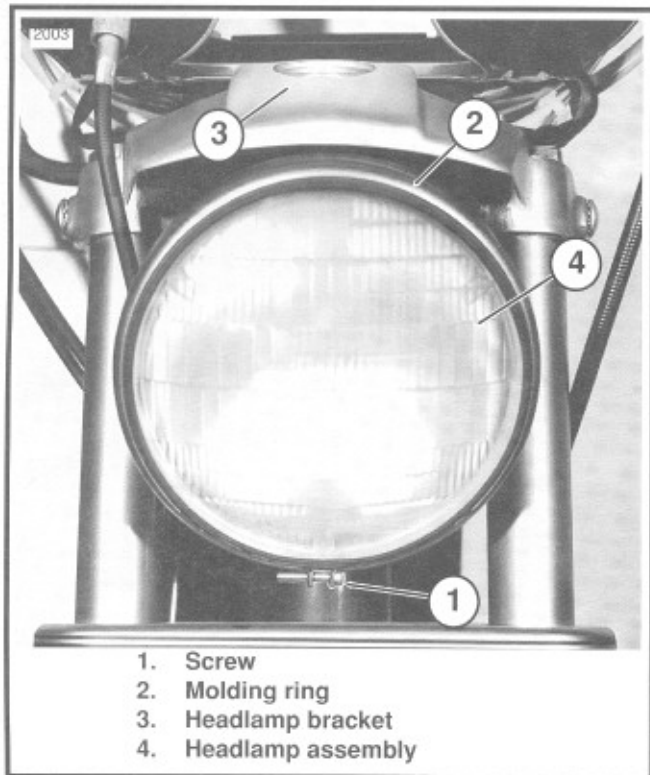

Figure 7-59. Headlamp Assembly
1. See Figure 7-59. Remove screw (1) and outer molding ring (2). Pry headlamp assembly (4) from rubber mounting.